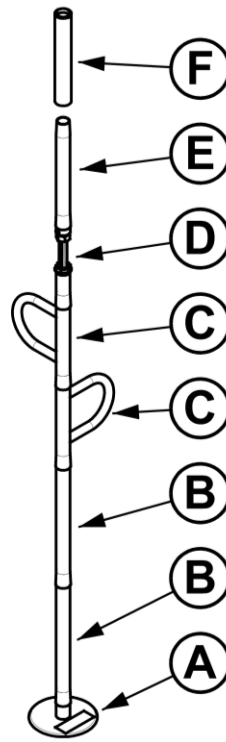

FIGURE 2
- Stack each part as shown in *FIGURE 2*. Plastic Sleeve **F** will fit over Tube **E** and cover the threaded portion of **D**.